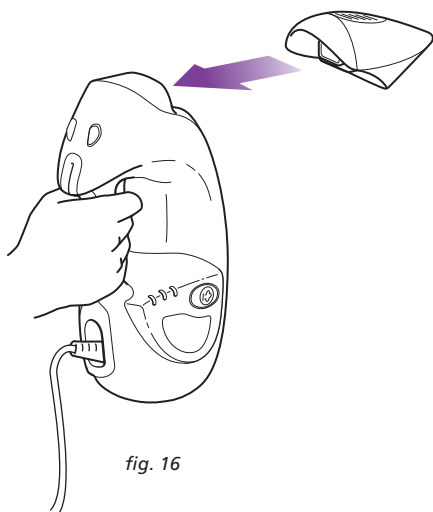

fig. 16
- 2 First attach the Direct Steam Nozzle by pressing the nozzle onto the Handheld Steamer until it clicks into place. (fig. 16)